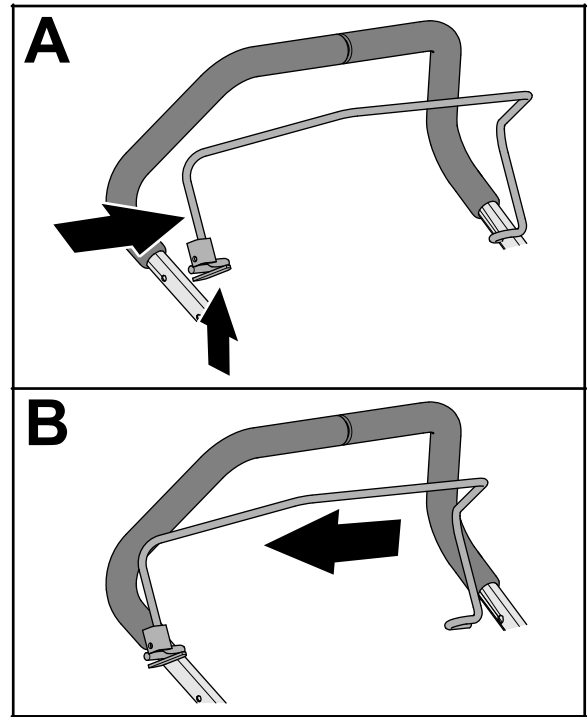

Figure 8
2. Squeeze the leg of the operator-presence bail until you can remove it from the upper handlebar, and remove the bail from the machine (Figure 8).